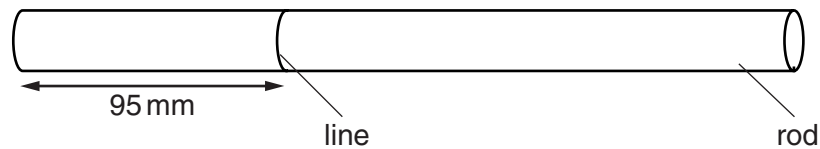

Fig. 1.1
1. The wooden rod is to have a thin waterproof line drawn round the circumference at a distance of 95 mm from one end, as shown in Fig. 1.1.